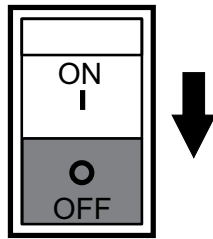

Figure 31. Main Circuit Breaker (OFF)
1. Place main circuit breaker (Figure 31) in the **OFF** position.